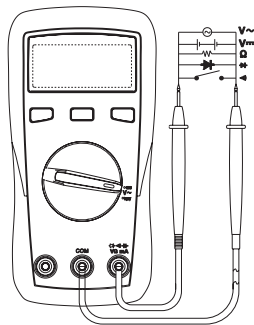

Figure 2
1. AC/DC voltage measurement (see Figure 2)
3. Continuity measurement (see figure 2)
4. Diode measurement (see figure 2)